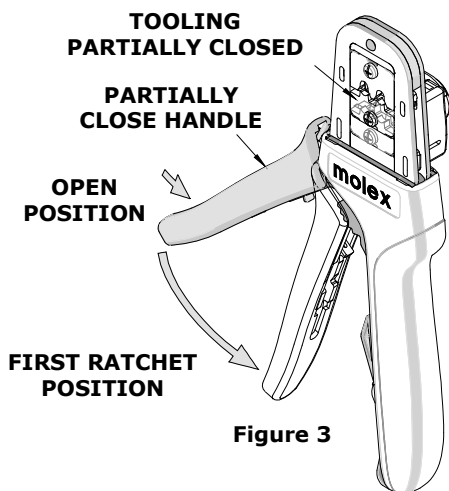

Figure 3
3. Close the tool handle until the first ratchet position engages. See Figure 3.